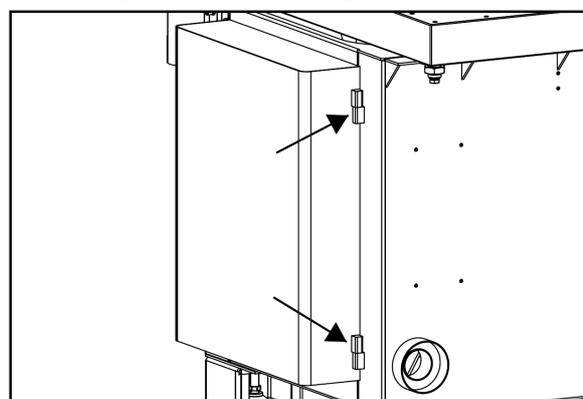

**Fig.19**
2. Install and lock the touch screen by turning the locking knob, as shown in **Fig.19**,